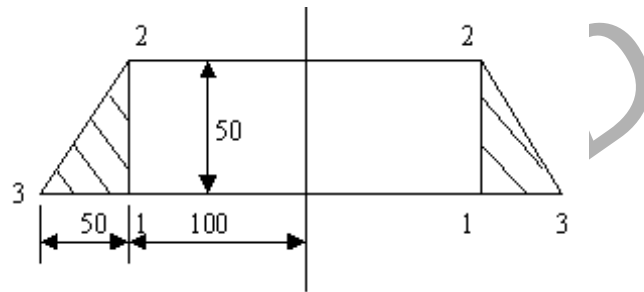

Figure 7
1. An axisymmetric ring element is shown in figure 7. Derive the matrices, [B] and [D]. Take $E = 2 \times 10^5 \text{ N/mm}^2$ and $\mu = 0.33$. [16]